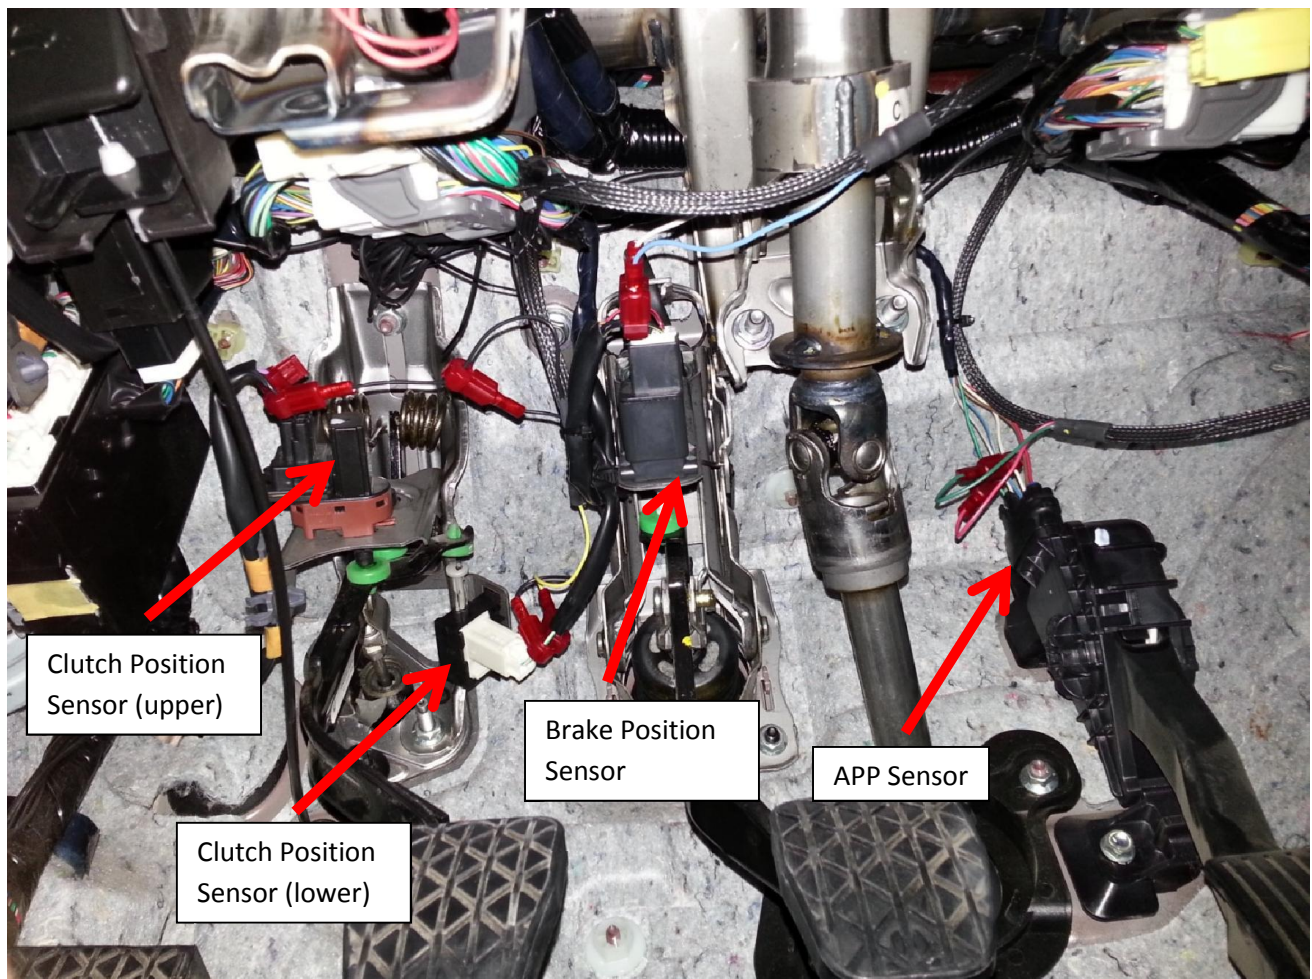

Figure 1 (Sensor Locations)
1. Locate Accelerator Pedal Position Sensor (APPS) (Figure 1).
3. Connect AUTO-BLiP white wire to the **red/black** wire on the Brake Position Sensor (**Figure 1 & 3**).
4. Connect AUTO-BLiP blue wire to the **black/yellow** wire on the brake pedal sensor (**Figure 1 & 3**).
5. Connect one end of the provided black accessory wire (Figure 7) to the **white/green/silver** wire on the LOWER clutch pedal sensor (**Figure 1 & 5**).
Note: Your vehicle is equipped with two clutch sensors; the clutch safety interlock is activated at the very bottom of the clutch pedal travel (Figure 1). Make sure the Posi-tap is attached to this sensor.
6. Connect the other end of the provided black accessory wire (Figure 7) to the vehicle's **black** wire on the UPPER clutch pedal sensor (**Figure 1 & 6**).
Note: Your vehicle is equipped with two clutch sensors; the Cruise Control Disable switch is mounted higher up under the dashboard (Figure 1). Make sure the Posi-tap is attached to this sensor.